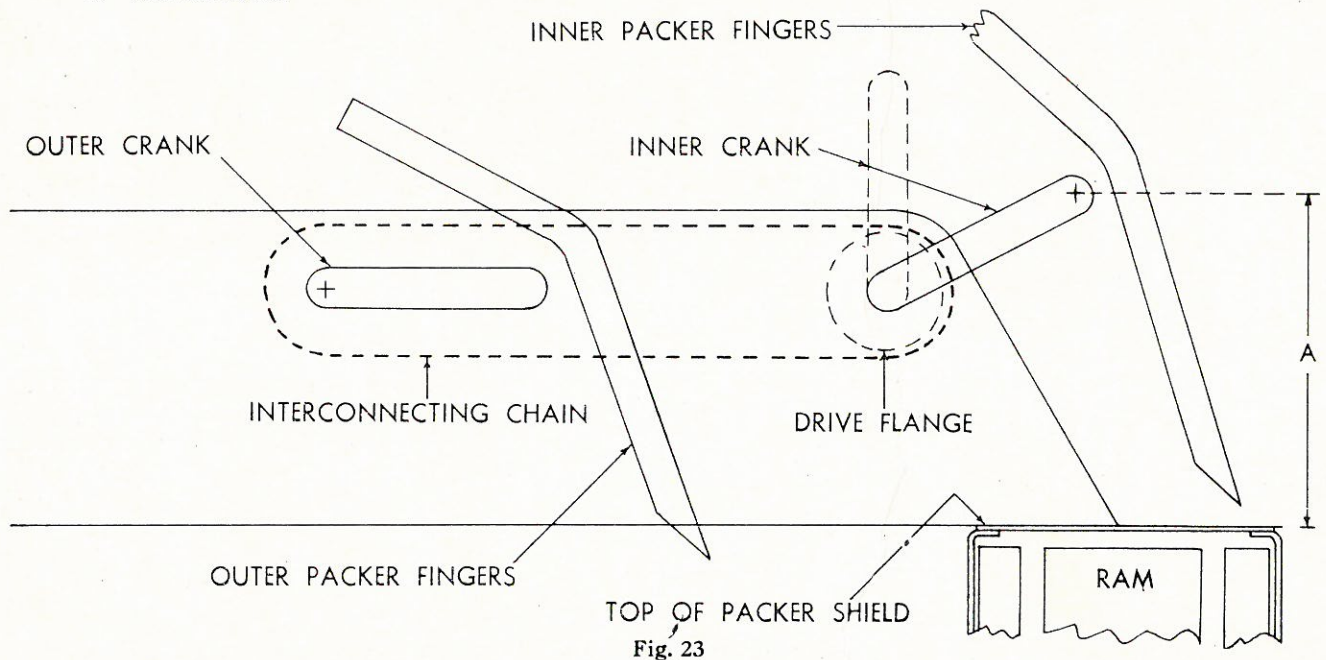

Fig. 23
2. Turn inner crank until the vertical distance from the centre of the crank to the packer shield, Point A (Fig 23) is between $13\frac{9}{16}$ " 345mm min. and $14\frac{3}{4}$ " 375mm max. Set as near to minimum dimension as possible.
2. Turn the outer crank to the horizontal position (Fig 23).